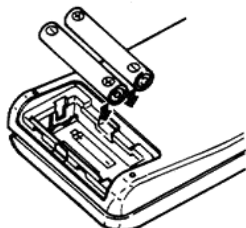

Fig.5
2. Install batteries (AAA, R03, UM-4) as shown in Fig. 5. Be sure batteries are installed with correct polarity, (+) and (-).